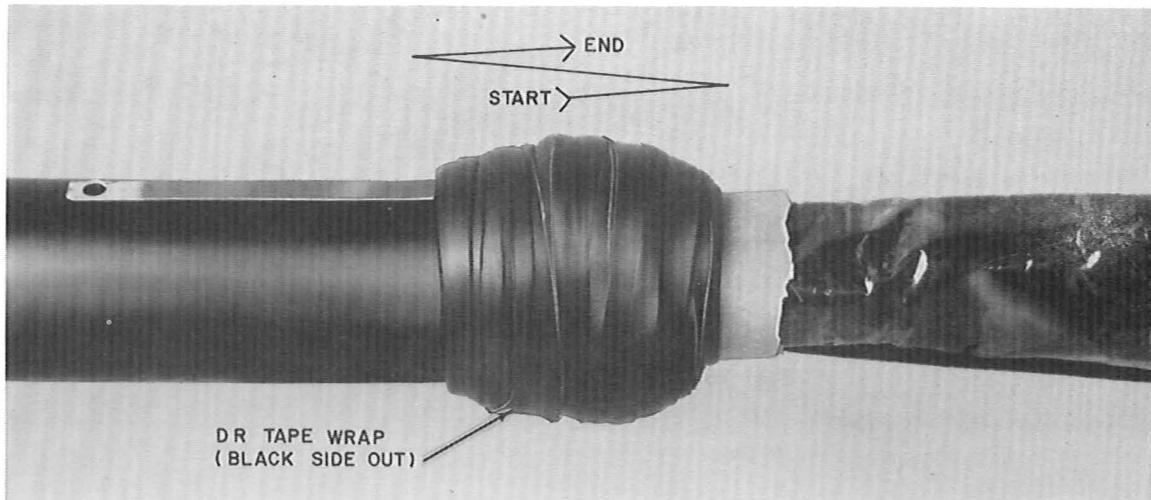

Fig. 9—DR Tape Wrap
5.03 Starting at the center, wrap the B sealing tape with DR tape stretching the DR tape as tight as possible and going from one end to the other (Fig. 9). This compresses the B sealing tape to form a better seal.